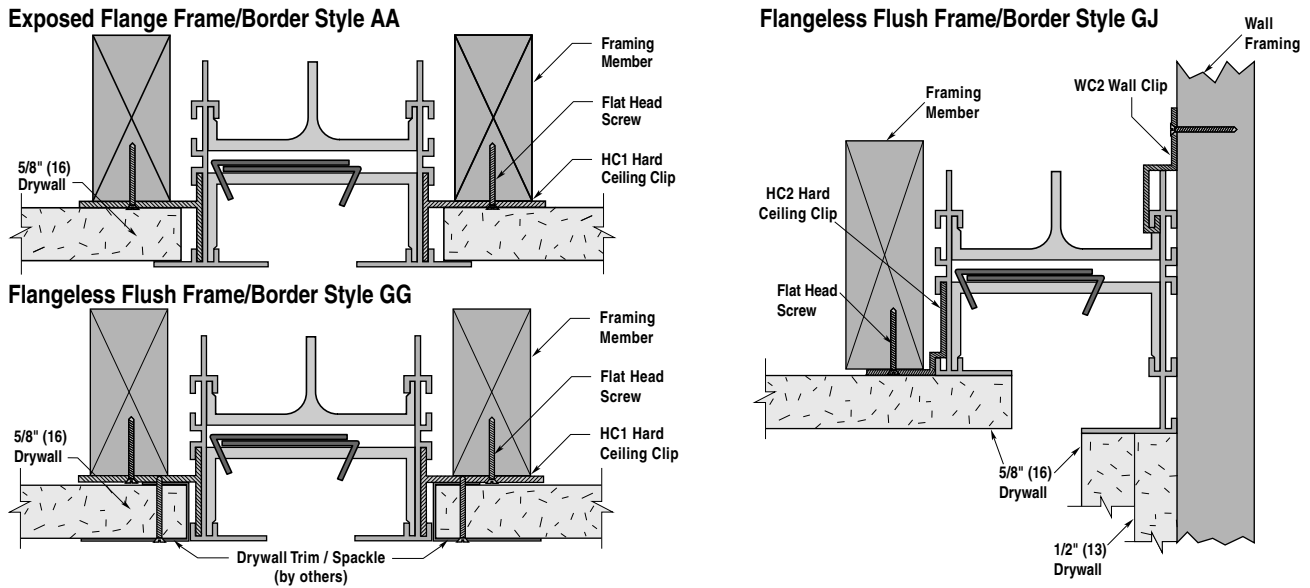

Figure 8. Depictions of frames A, G and J hard ceiling installations.
- A. For Exposed Flange Frame/Border Style A and Flangeless Flush Frame/Border Styles G and J (See Figure 8).
- b. Spacers are factory installed with integral hanger brackets at maximum 24" (610) centers.
- c. Insert appropriate hard ceiling (HC) clips into the diffuser's lower outside rail niches at maximum 12" (305) centers.
**Note:** Leave a 1/8" (3) gap to allow for thermal expansion between sections longer than 12 feet (3658).
- a. Fasten diffuser sections to framework by drilling 1/2" – 3/4" (13 – 19) flat head screws through **HC** Hard Ceiling Clips into framework at maximum 12" (305) centers (See Figure 8).
- a. Fasten diffuser sections to wall framing by drilling 1/2" – 3/4" (13 – 19) flat head screws through **WC** Wall Clips into framework at maximum 12" (305) centers.
- A. For Frame/Border Style A (See Figure 8)
- B. For Frame/Border style G and J (See Figure 8)